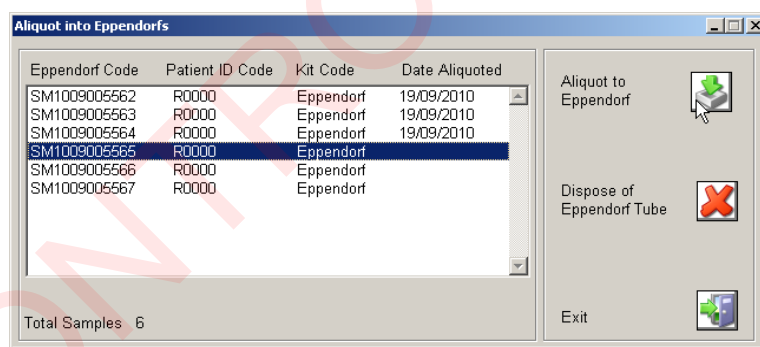

Figure 12 – Selection of each sample aliquot and the date aliquoted
4. Each eppendorf code will appear, verify that the codes are correlate, select the **'Aliquot into Eppendorfs'** icon  and today's date will appear in the screen (Figure 12). Click on the **'Exit'** icon .